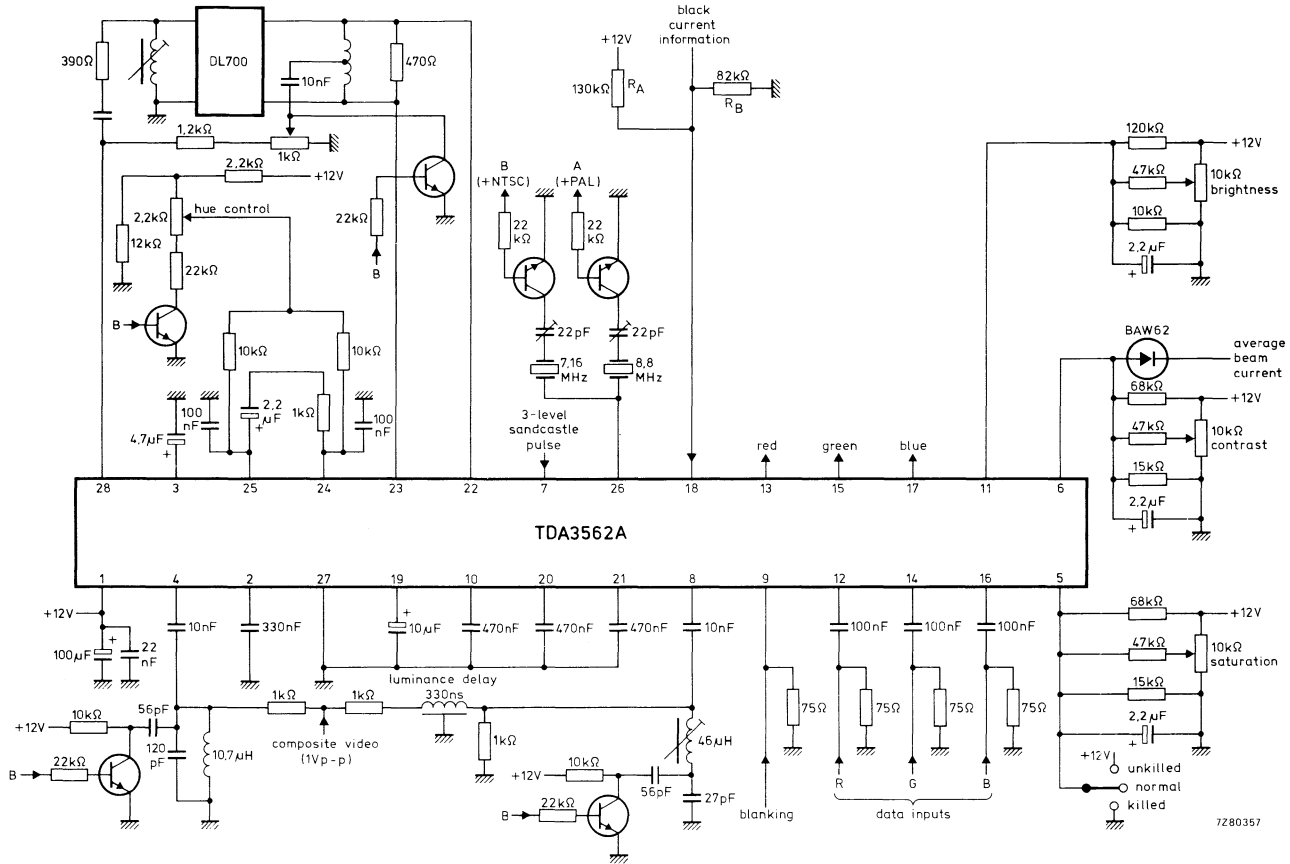

Fig. 8 Application diagram showing the TDA3562A for a PAL/NTSC decoder.
12. The voltage at pins 24 and 25 can be changed by connecting the load resistors ( $10 \text{ k}\Omega$  in this application) to the slider bar of the hue control potentiometer (see Fig. 8). When the transistor is switched on, the voltage at pins 24 and 25 is reduced below 9 V, and the circuit is switched to NTSC mode.